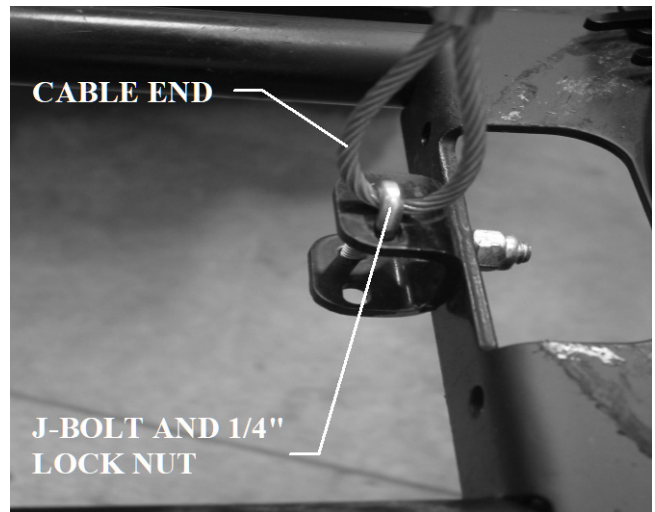

Figure 7
- Run the winch cable over the roller fairlead and down to the J-bolt bracket. Using a 1/4" dia J-bolt, hook the loop on the end of the winch cable and slide the threaded end of the J-bolt into the slotted hole in the J-bracket. Terminate the end of the J-bolt with a 1/4" dia nylock nut. Tighten the nut until the winch cable is snug inside the J-bolt as shown in figure 7.